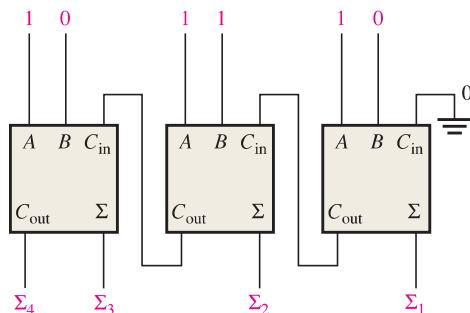

FIGURE 6-69
- For the parallel adder in Figure 6-69, determine the complete sum by analysis of the logical operation of the circuit. Verify your result by longhand addition of the two input numbers.